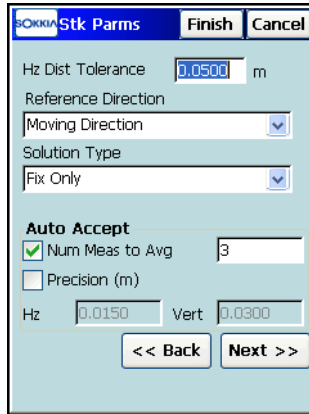
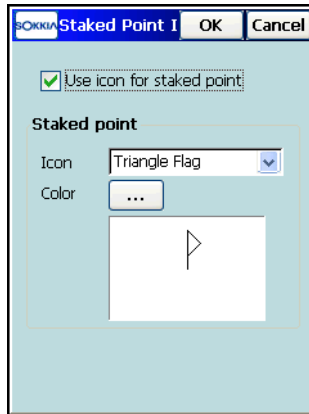

Figure 4-23. Stakeout Parameters
Figure 4-24. Staked Point Icon
13. On the *Stk Parms* screen, enter *Stakeout* parameters and tap **Next** (Figure 4-23 on page 4-18). These parameters can be changed by pressing the **Settings** button from any Stakeout screen in GPS+ mode.
14. To display the icon for the staked point on the map, select the *Display* option from the menu in the upper left corner of the *Stk Params* screen (Figure 4-23). On the *Staked Point Icon* screen (Figure 4-24), set appropriate parameters for the icon.